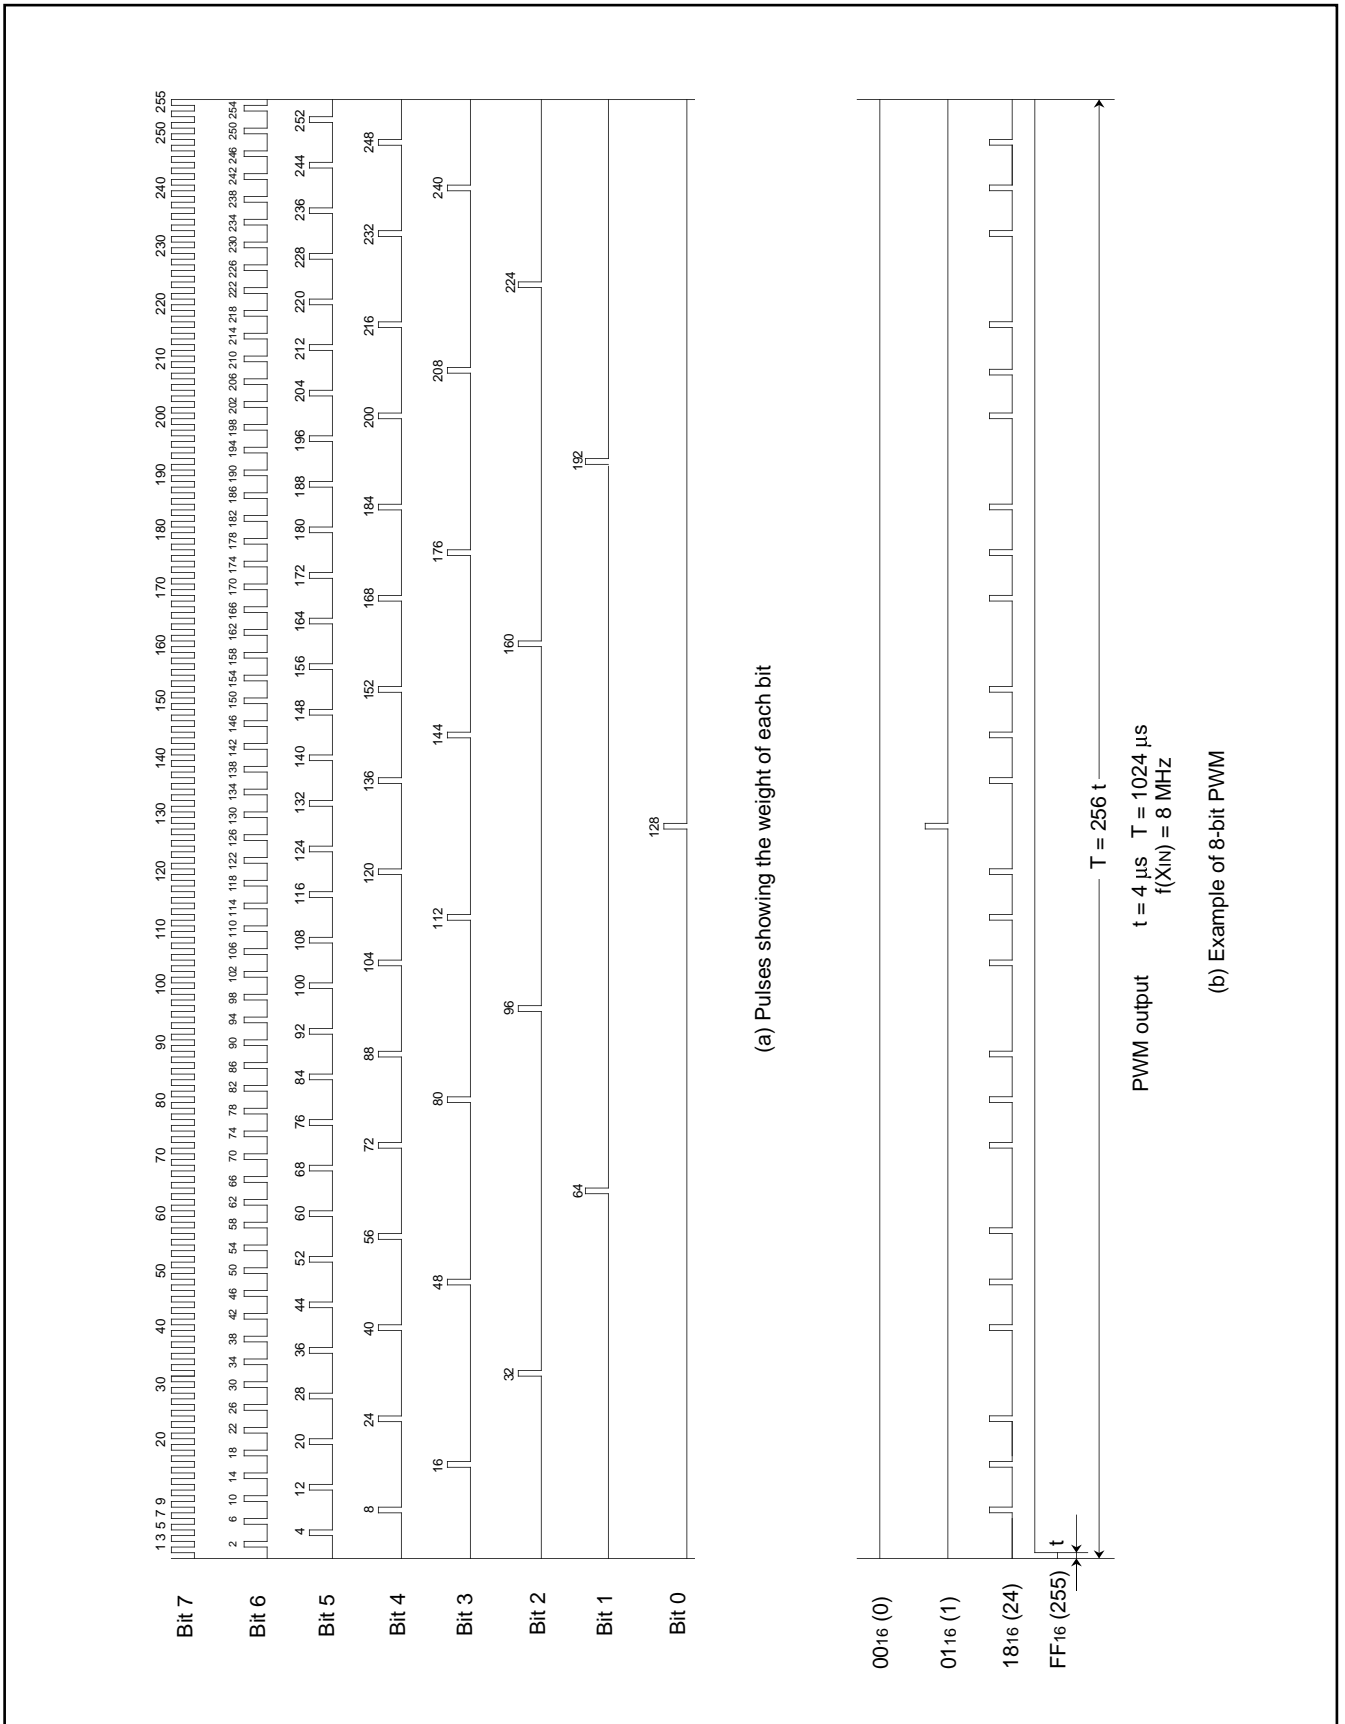

Fig. 14. 8-bit PWM timing
Figure 14 shows the 8-bit PWM timing. One cycle (*T*) is composed of 256 (2^8) segments. The 8 kinds of pulses relative to the weight of each bit (bits 0 to 7) are output inside the circuit during 1 cycle. Refer to Figure 14 (a). The 8-bit PWM outputs waveform which is the logical sum (OR) of pulses corresponding to the contents of bits 0 to 7 of the 8-bit PWM register. Several examples are shown in Figure 14 (b). 256 kinds of output ("H" level area: 0/256 to 255/256) are selected by changing the contents of the PWM register. A length of entirely "H" output cannot be output, i.e. 256/256.
(4) Operating of 14-bit PWM